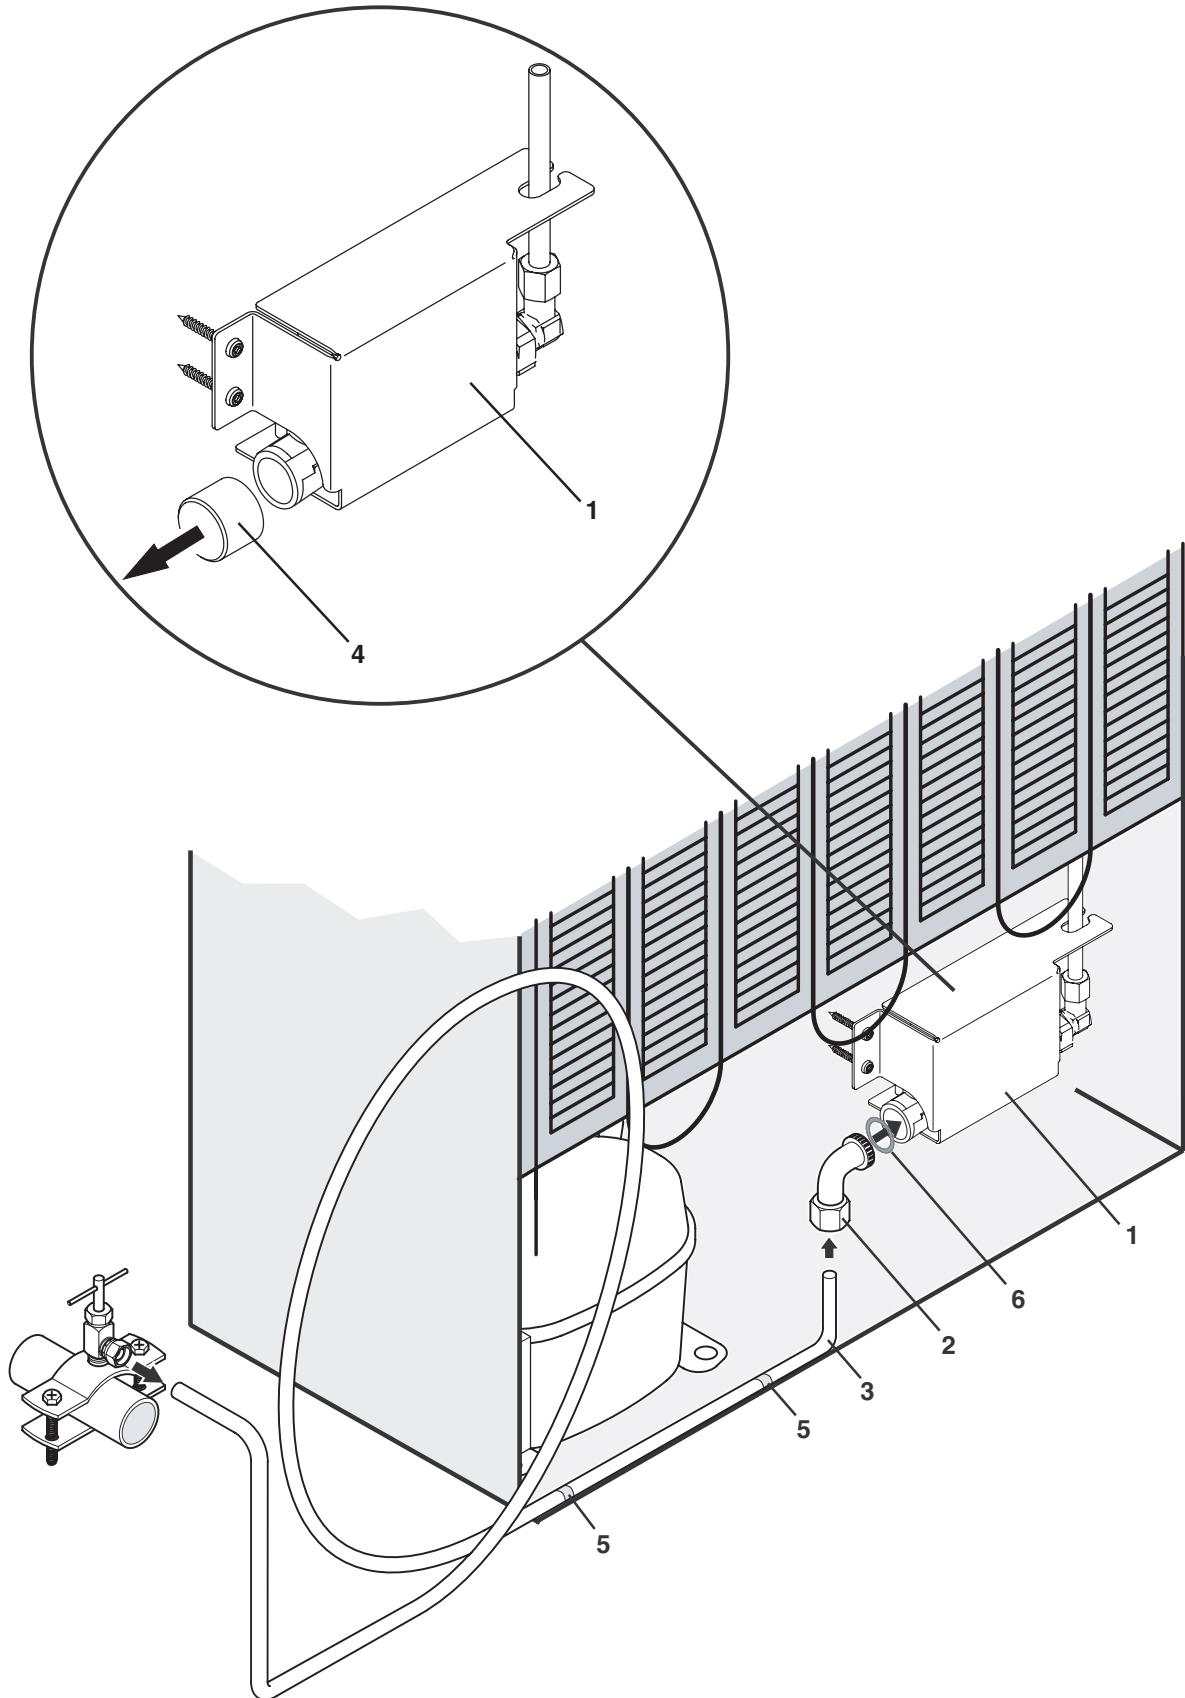

Figure 16
Figure 16: Remove the cover cap (4) from the solenoid valve (1). Install the connection bracket (2) with sealing ring (6) on the solenoid valve (1). Attach the copper tube to the connection bracket (2). Secure the copper tube (3) to the appliance using the cable clip (5).